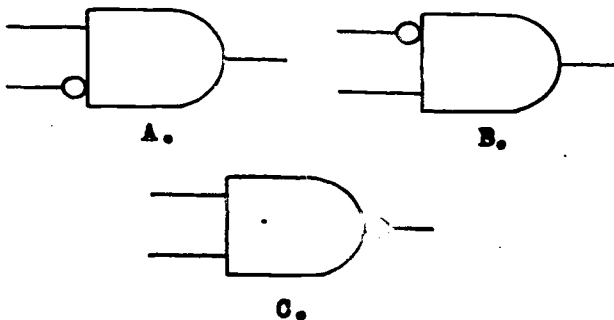

Figure 1-33. Figure for objective 002, exercise 3.
3. Detail _____ in figure 1-33 shows an AND-gate notted.